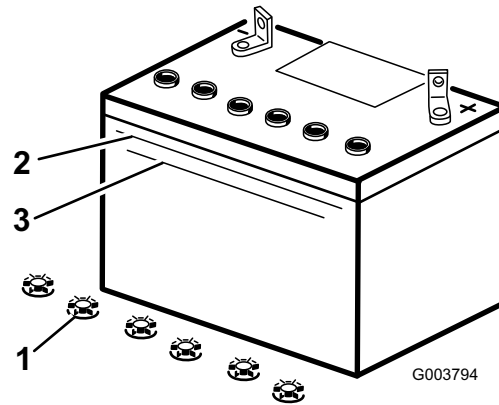

Figure 28
3. Look at the side of the battery. The electrolyte must be up to the Upper line (Figure 28). Do not allow the electrolyte to fall below the Lower line (Figure 28).
3. Remove the filler caps from the battery (Figure 28).
4. Slowly pour distilled water into each battery cell until the electrolyte level is up to the Upper line (Figure 28) on the battery case.
- Wait five to ten minutes after filling the battery cells. Add distilled water, if necessary, until the electrolyte level is up to the Upper line (Figure 28) on the battery case.